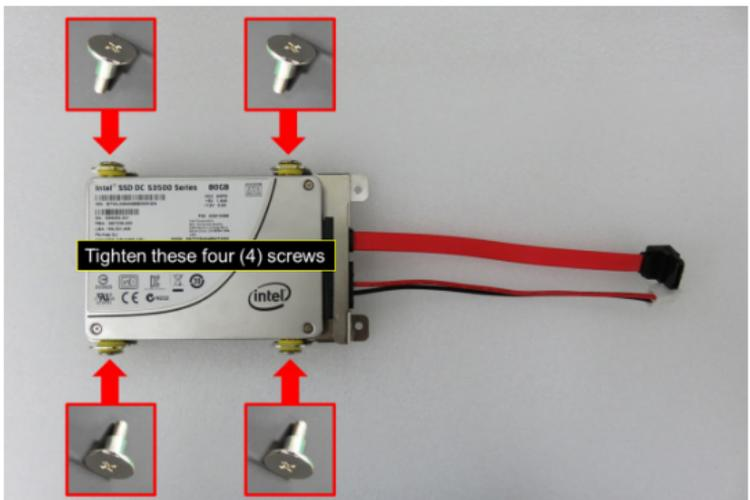

Figure 17
- 4.2.1.5 Use a Phillips screwdriver (item 1 in Table 2) to tighten the four (4) screws to secure the SSD/HDD on to the tray as shown in Figure 17.